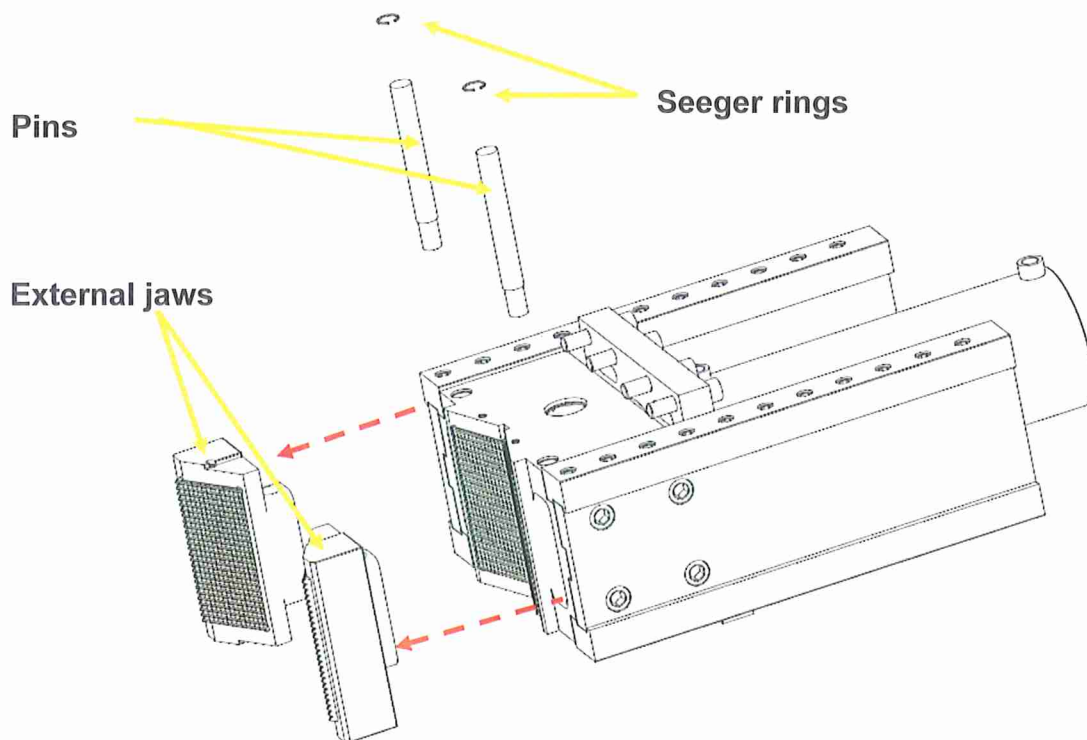

Fig. 3.6 - Disassembling the external jaws
3. Pull out the pins and remove the jaws from their seat (see fig. 3.6)